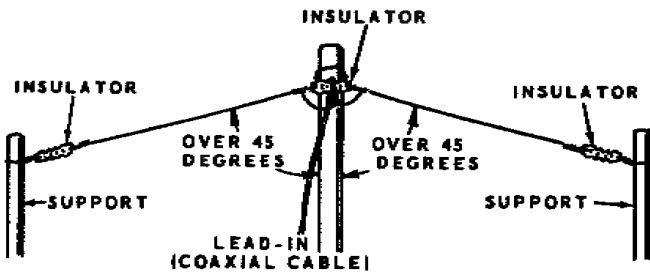

Figure 7
- 1B.** Locate the supports that are fairly high off the ground. The center support should be 20 to 100 feet from the ground and both end supports over 10 feet from the ground. Note that the angle between the center support and the antenna wires should be over 45 degrees. Refer to Figure 7.